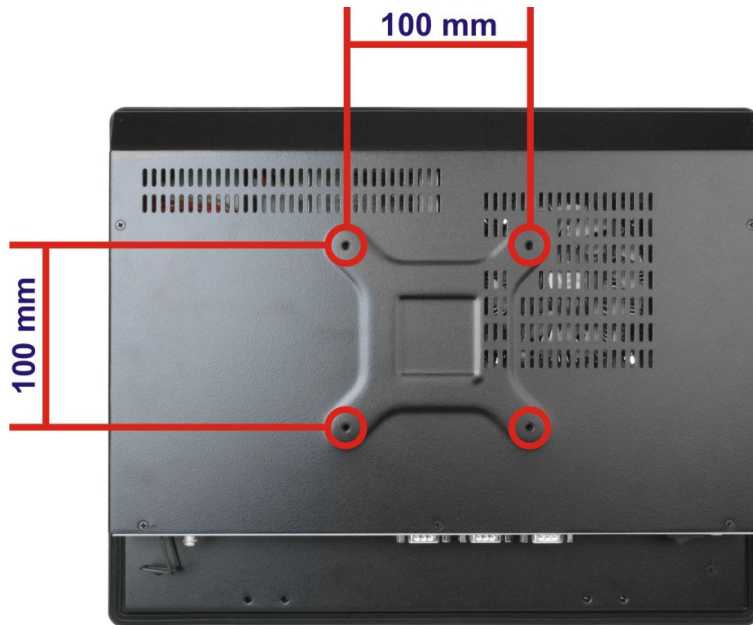

Figure 3-38: Arm Mounting Retention Screw Holes
- Step 3:** Align the retention screw holes on the mounting arm interface with those in the PPC-FxxA-H81 panel PC. The arm mounting retention screw holes of the PPC-FxxA-H81 panel PC are shown in **Figure 3-38**.